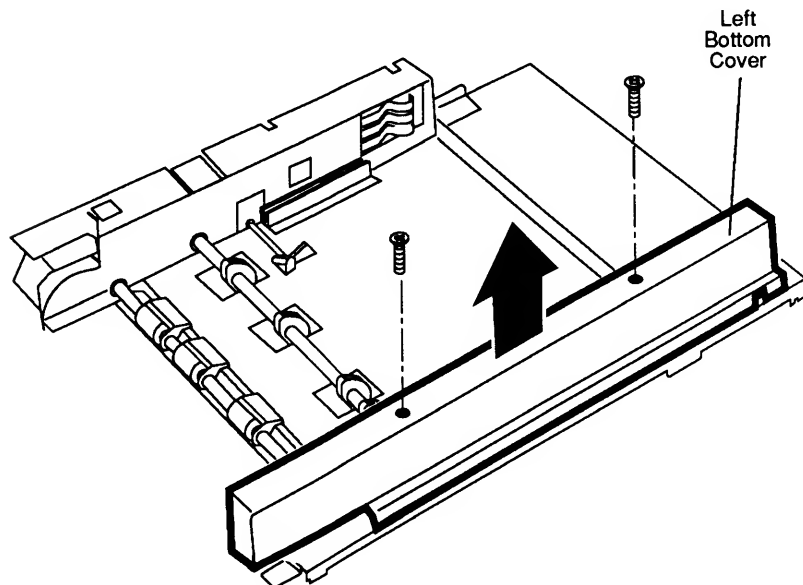

Figure 2-6 Left Bottom Cover
3. Remove the two screws that secure the left bottom cover to the cassette feeder tray (**Figure 2-6**).
4. Lift the left bottom cover off the printer chassis and set it aside (**Figure 2-6**).